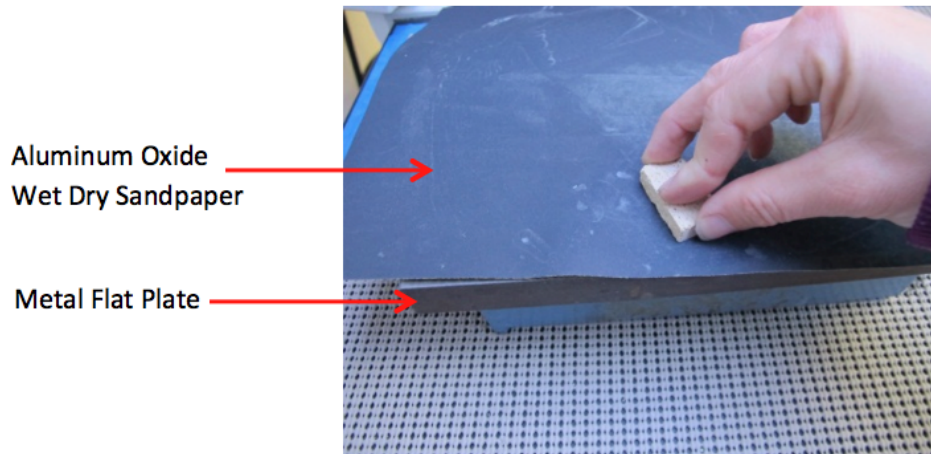

**Figure 5** (Logitech Thin Rock Section Production Manual)
14. When finished the flat side of the sample should reflect light and feel smooth to touch (Fig. 5). If any parts look dull or feel rough it may need more time on the lap wheel.
3. When finished, the flat side of the billet should reflect light and feel smooth to touch (Fig. 5). If any parts look dull or feels rough, it may need more time sanding.